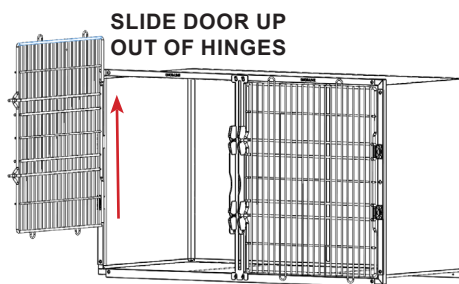

FIGURE 3.2 - Door Removal
- B:** Lift the door up, sliding the bushings out of the hinge assembly. Set away from the assembly area. See FIGURE 3.2